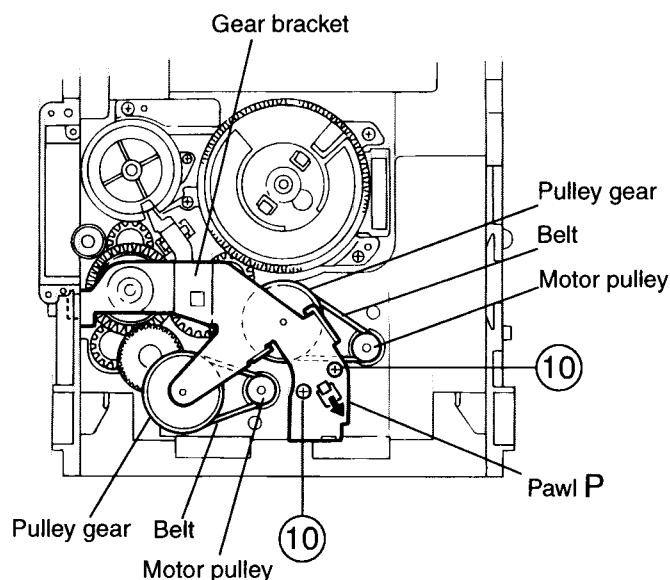

Fig.19
■ Removing the actuator motor and belt (See Fig.19~22)
(See Fig.19).
4. Remove the belts respectively from the right and left actuator motor pulleys and pulley gears(See Fig. 19).